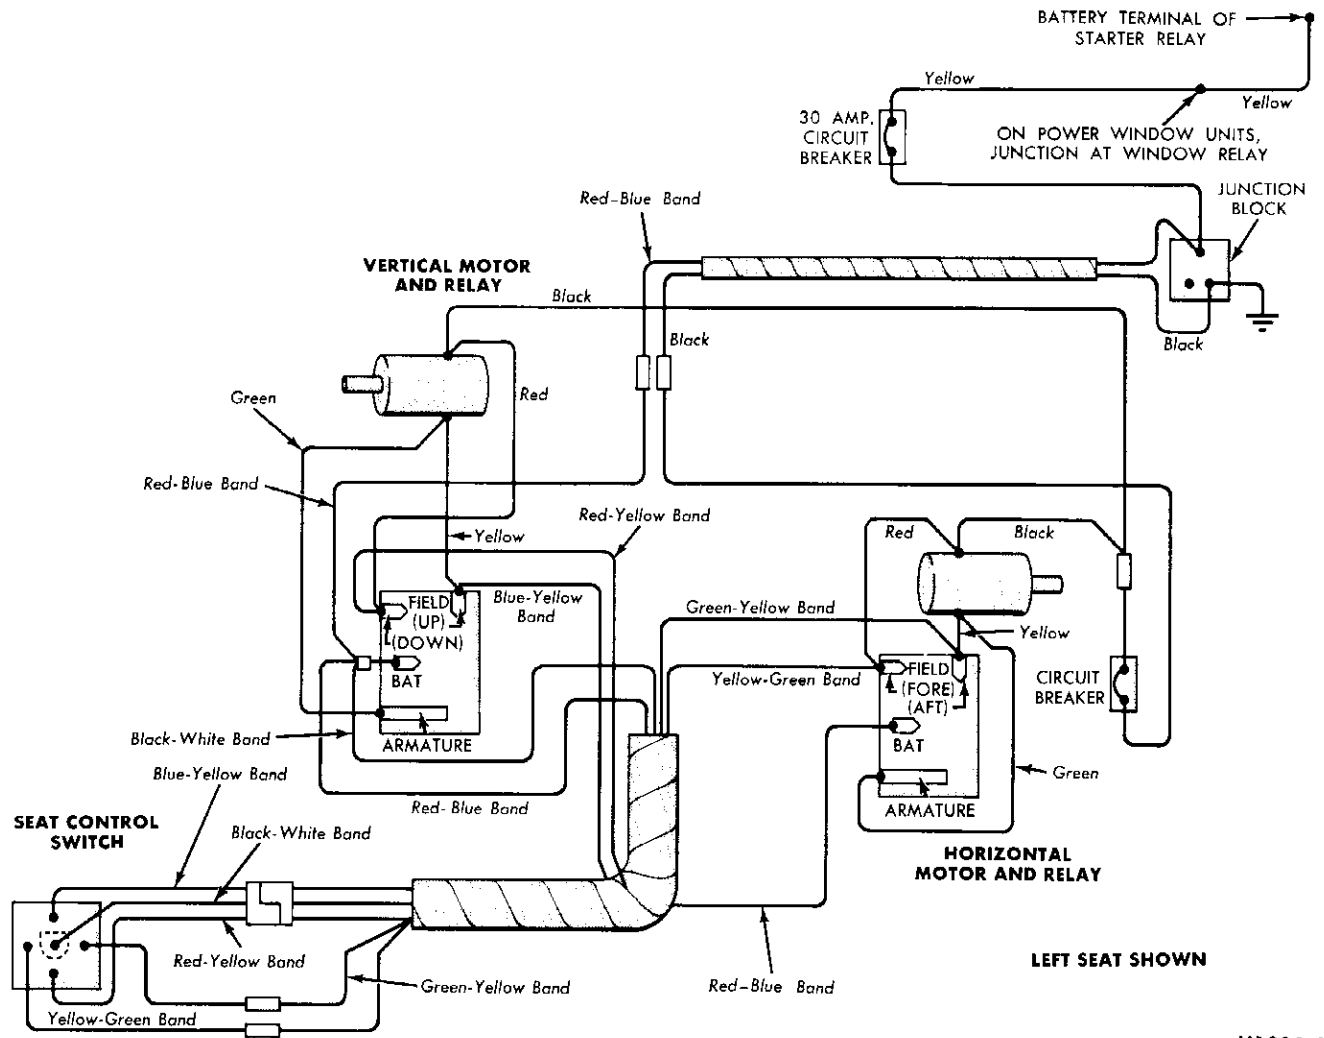

FIG. 2—Power Seat Wiring System
Figure 2 shows a pictorial wiring diagram of the power seat electrical circuit.
4. Pull the black-white band wire out of the switch and connect a voltmeter from it to ground (Fig. 2). If no voltage is available, repair or replace the black-white band wire between the switch and the relay.
When the seat travels contrary to the direction in which the switch is operated, crossed wires at the switch or at the relay are indicated. Check the wiring connections for proper installation as shown in Fig. 2.
1. Remove the two nuts and washers retaining the motor to the drive assembly and remove motor and relay as an assembly. Slide the relay bracket and relay off the motor retaining bolts. Remove the rubber coupling from the motor shaft. Transpose the new motor leads for the defective motor leads (Fig. 2).